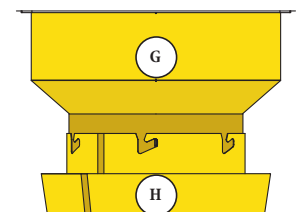

FIG. 12d
- Twist the Cassette Holder (H) counter clockwise to lock it in place. [FIG. 12d]